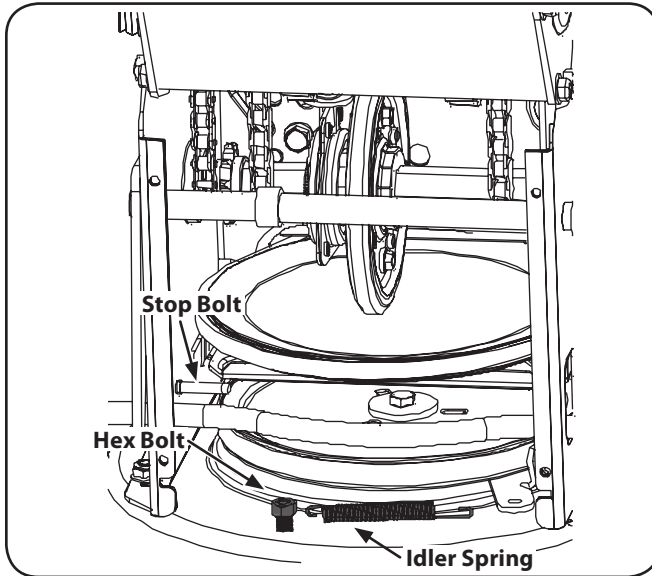

Figure 7-4
6. Unhook the idler spring from the hex bolt on the auger housing. See Fig. 7-4.